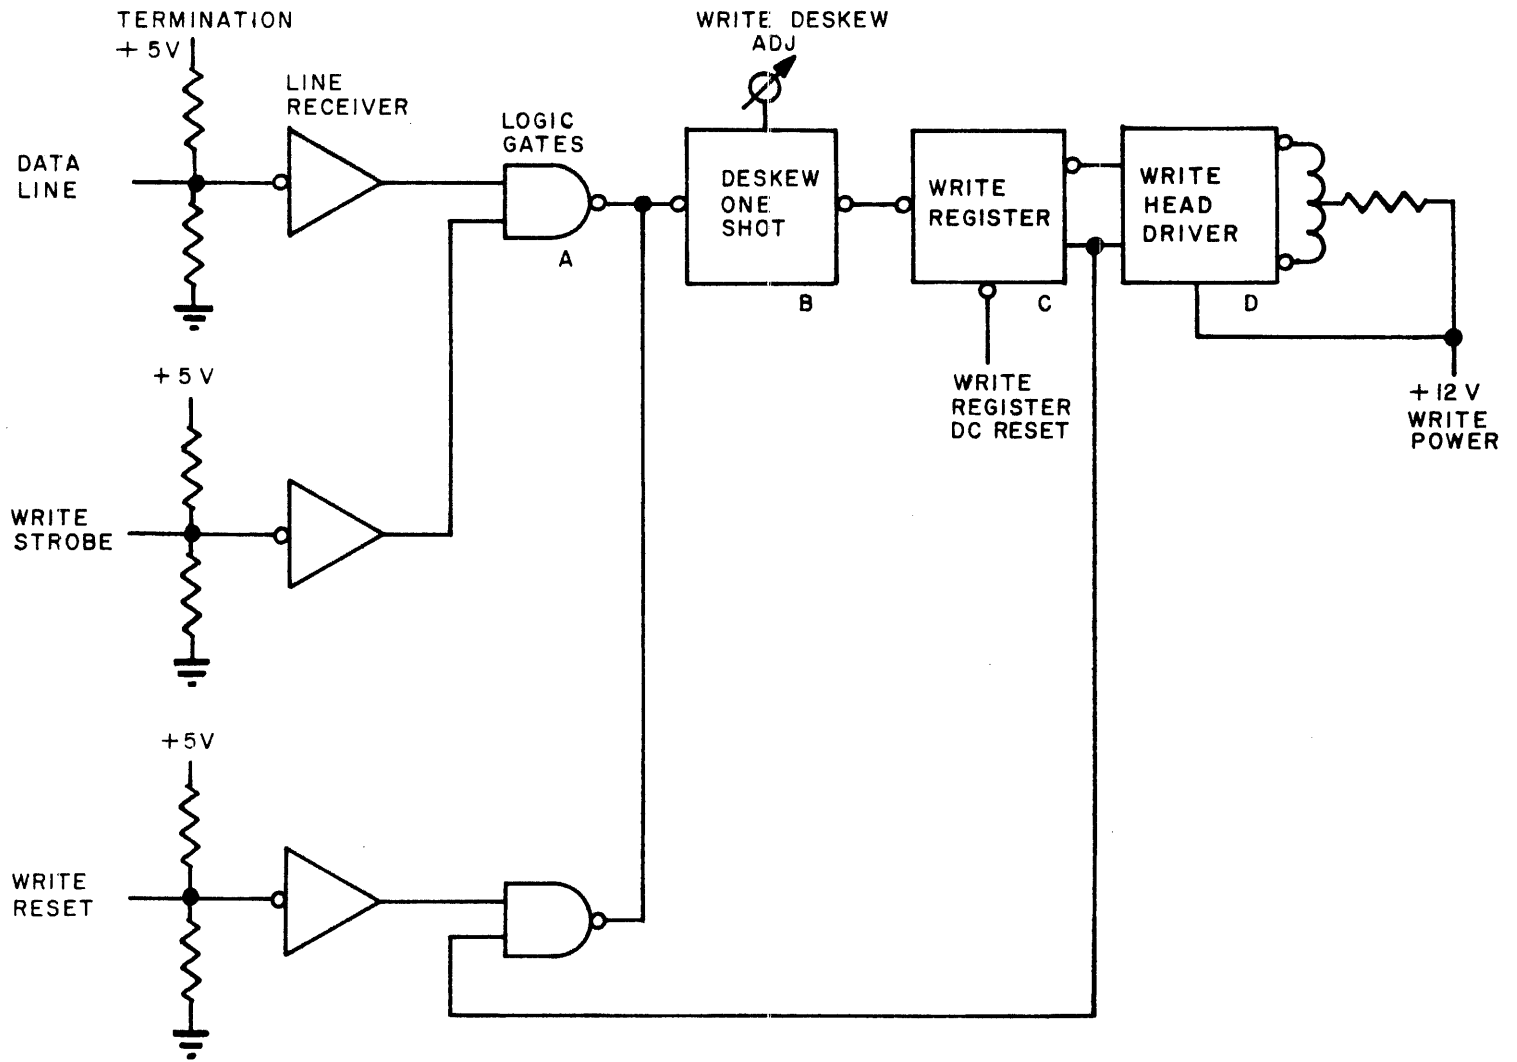

Figure 27. Write Data Flow, Dual Gap Systems
Figures 27 and 28 present a block diagram and timing diagram of the flow write data through the system. (Only one data line is shown. The components for the channel represented schematically in these diagrams are, of course, duplicated for each of the other write data channels). Data enters through line receivers whose function is to invert the low-TRUE levels. Each receiver has a terminating impedance of 130 ohms.
A pulse on the write strobe line clocks information from the data lines into the system. The repetition rate is determined by the product of velocity (V) of the transport and the desired data packing density (D). The frame time therefore becomes the reciprocal of this product  $\frac{1}{VD}$ . If a given data line is TRUE, the write strobe pulse passes data on that line through the data strobe reset logic gates, which consist of two NAND-gates, OR'd together (see the block labeled A in Figure 27). If a given data line is FALSE, the pulse is gated out.
At the block labeled B (Figure 27) electronic correction is made for the static skew characteristics of the write head. The leading edge of the gated data pulse triggers the write deskew single-shot, whose pulse width has been preset and is adjustable by means of a potentiometer. The trailing edge of the pulse loads the write register, whose contents are then converted into currents by the head drivers. The head drivers operate the write heads, which put the data on tape.
Figure 30 presents a block diagram of the flow of read data through the system. (As in Figure 27, only one channel is indicated.) The read head generates a low-level analog signal of approximately 45 to 55 millivolts peak to peak at 75 ips. The read amplifier, which has a differential input and single-ended output, picks up this signal and amplifies it to a suitable level, then sends it to a phase splitter, which generates the complementary signals required for full-wave rectification. The phase splitter output signal level is adjusted to 12 volts peak to peak